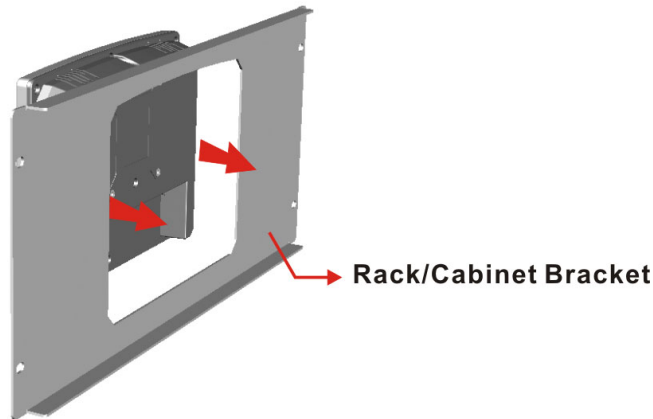

Figure 3-35: The Rack/Cabinet Bracket
Step 2: Slide the rear of the PPC-FxxA-H81 flat panel PC through the rack/cabinet bracket until the aluminum frame is flush against the front of the bracket (**Figure 3-35**).